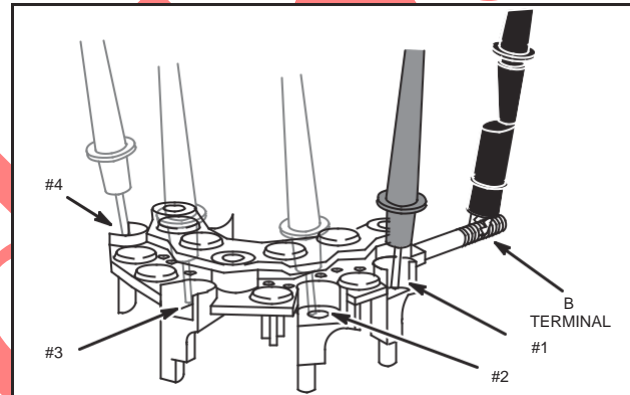

Fig. 35 – Check Rectifier
1. Attach BLACK meter test lead to "B" terminal, Fig. 35. Leave attached through Step 3.
2. Contact #1 terminal with RED meter test lead, Fig. 35.